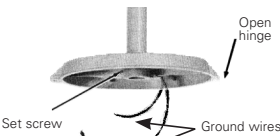

FIGURE 1 (pendant mount shown)
2. Pendant, angled, stanchion mount: Securely thread onto the appropriate NPT size conduit. Tighten set screw located in the conduit hub. (See Figure 1).